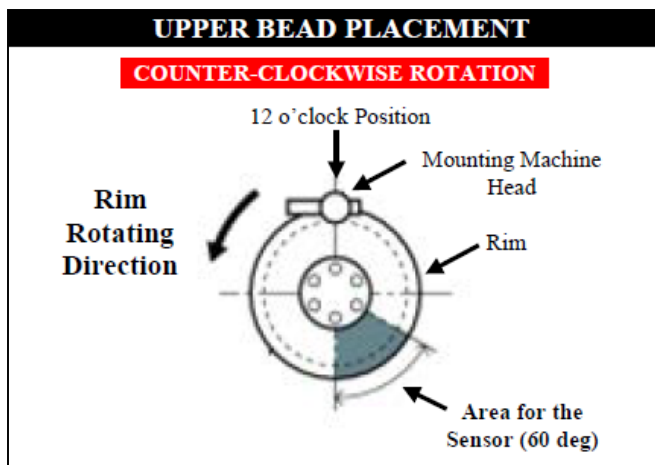

Figure 6b
- Re-position the wheel on the mounting machine with the sensor at ~ 5 o'clock position. See Figure 6b (Shaded Area).